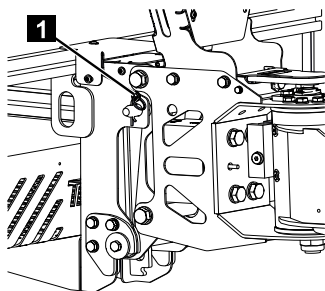

Fig. 160
5. Insert the spring cotter pin (Fig.160/1) into the locking pin.